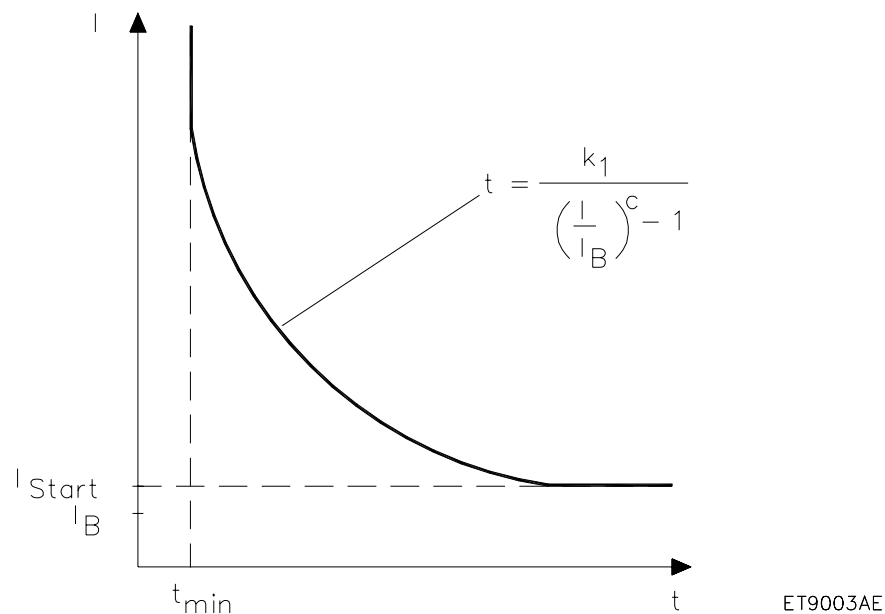

Fig. 3.5.27.1 IDMT tripping characteristic for 'I0-Invers' ($I = 3 I_0$)
- Tripping characteristic according to British Standard 142 (see Fig. 3.5.27.1):